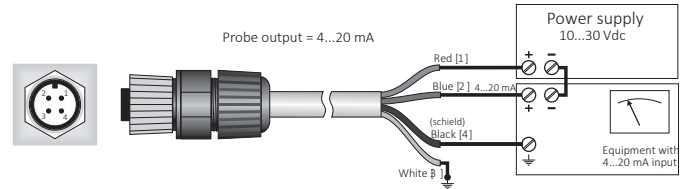

Fig. 7
- LP PYRHE 16 AC should be connected to a power supply device and to a multimeter according to the scheme below (figure 7), the load resistance for signal readout should be  $\leq 500 \Omega$ :